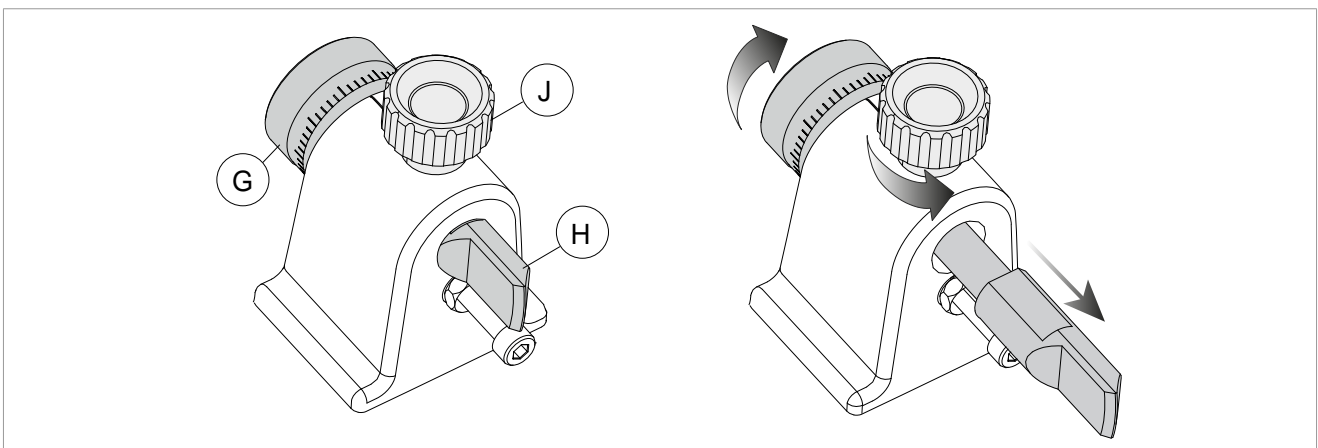

Fig. 32
- 1) Loosen the knob (J) (Fig. 32).
- 2) Loosen the ring nut (G) completely and remove the tracer. Attention: the spring may stay in place.
- 3) Fit a new tracer and tighten the ring nut (G).